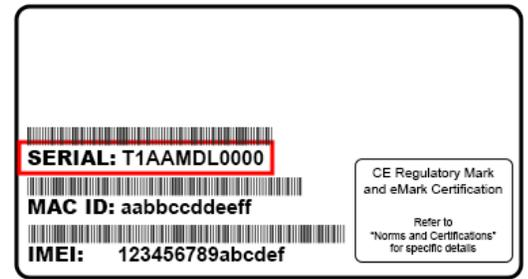

Figure 1: Xylem Gateway information label with serial number, on the back of the Xylem Gateway
- The xGW serial number can be found on the box or the back side of the xGW, as shown in Figure 1.
- Call YSI Technical Support at +1 (877) 726-0975 or +1 (937) 688-4255 to register your account and enable the xGW.